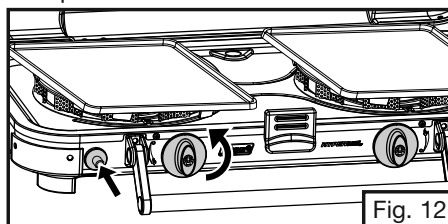

Fig. 12
2. Open burner valve and repeatedly push igniter button until burner ignites. (Fig. 12)